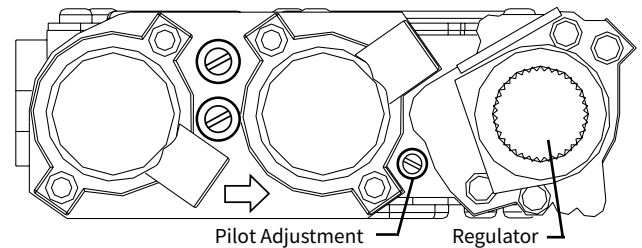

Figure 14.1. Manual flame regulation.
- PILOT FLAME:** You can monitor the pilot flame behind the burner in the cut-out under the rear log. See fig. 47. The pilot flame should be steady - not lifting or floating. The flame should be blue in color around the pilot hood, with traces of yellow toward the outer edges. The pilot flame should engulf the top 1/8" of the flame sensor. The pilot flame should project from the pilot hood port toward the burner plate carry-over ports. Adjust the pilot flame using the adjustment screw to the left of the valve regulator. See fig. 14.1.